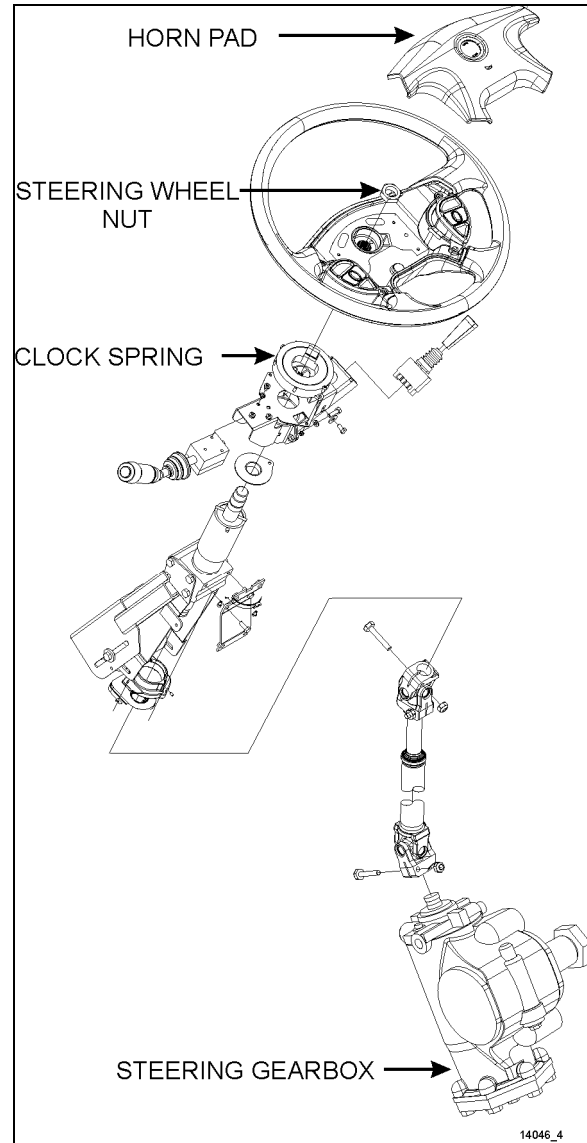
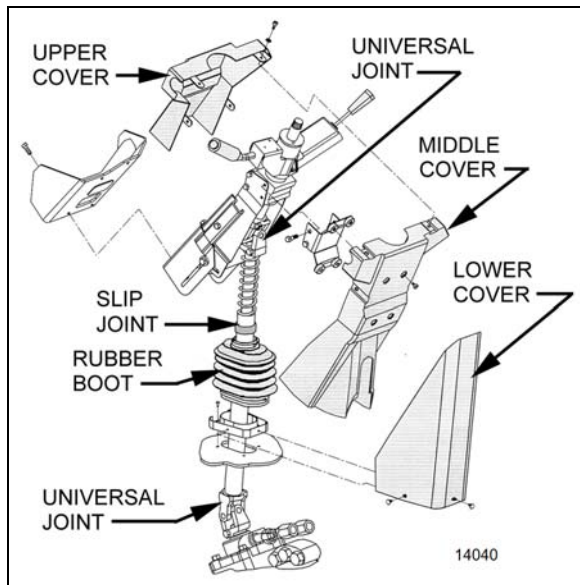

FIGURE 9: STEERING COLUMN
FIGURE 10: STEERING COLUMN COVERS
To disassemble the steering column from system, refer to Figure 9 & Figure 10. The steering column has no lubrication points. The lower steering column U-joint is easily accessible through the front service compartment. The upper steering column U-joint and the steering slip joint are accessible from the front driver's area. To access these joints, proceed as follows:
1. From the front driver's compartment area, remove the three plastic fasteners on steering column lower cover. Remove the lower cover (Figure 10).